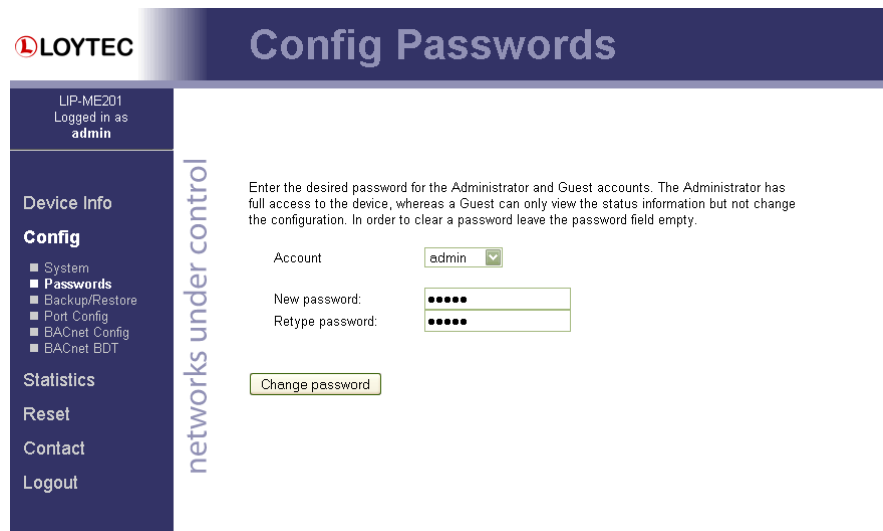

Figure 5: Password Configuration Screen.
The Config menu opens. Click on **Passwords** in the Config menu, which opens the password configuration page as shown in Figure 5. The device has three user accounts: (1) **guest** allows the user to view certain information only, e.g., the device info page. By default the guest user has no password. (2) **operator** is able to read more sensible information such as calendar data. (3) **admin** has full access to the device and can make changes to its configuration. Note that the user accounts are also used to log on to the FTP and Telnet server.